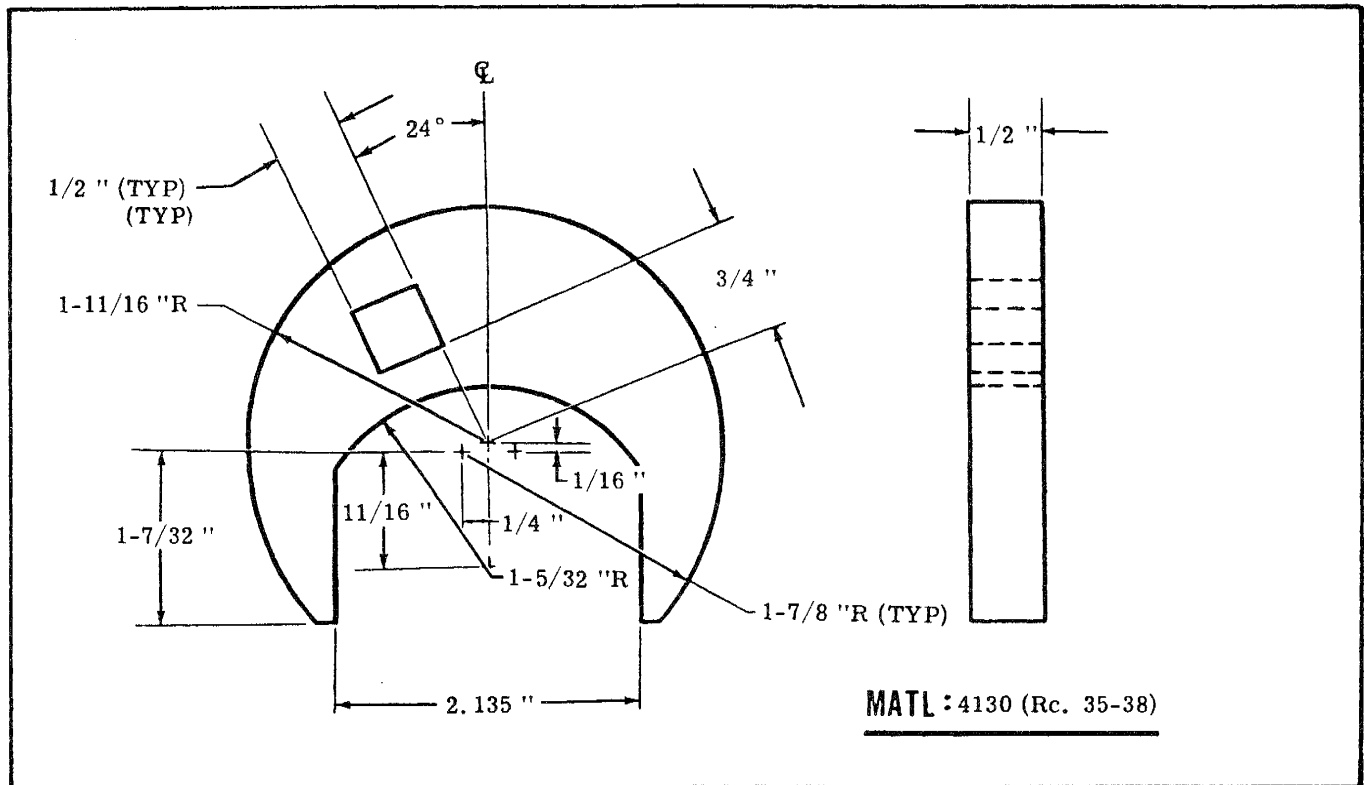

Figure 11-5. Oil Filter Adapter Wrench Fabrication
A special wrench adapter for adapter nut (11) (Part No. SE-709) is available from the Cessna Service Parts Center, or one may be fabricated as shown in figure 11-5. Remove any engine accessory that interferes with removal of the adapter.
b. Note angular position of adapter (10), then remove safety wire and loosen adapter nut (11).
c. Unscrew adapter and remove from engine. Discard adapter O-ring (12).